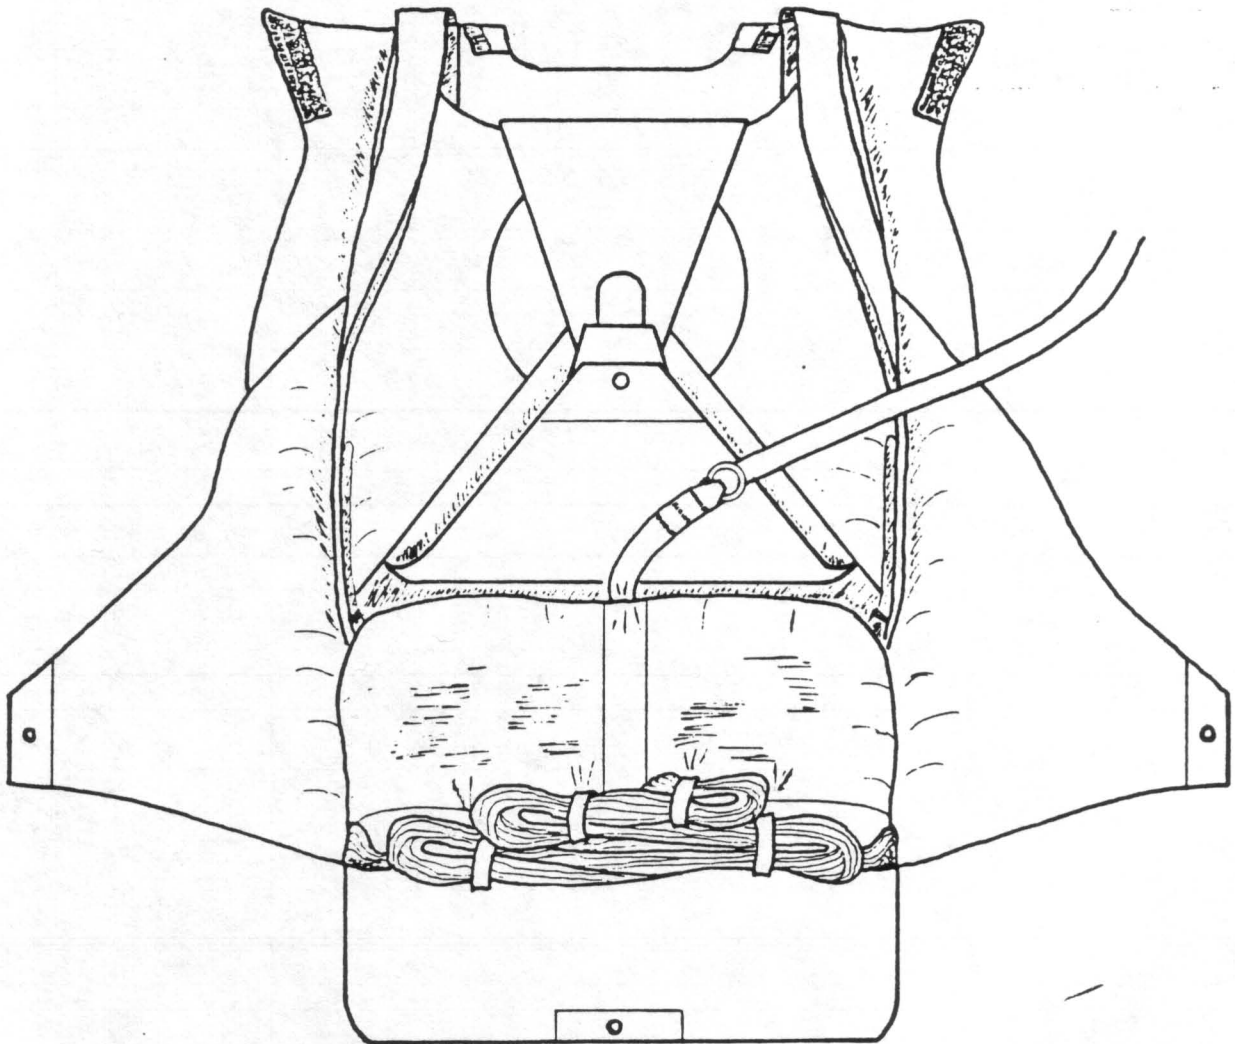

FIG. 8
- 9) Lay the risers in the "trough" between the sides of the reserve container and the riser covers, and place the connector links in the lower corners. Place the bag in the container with the line stows toward the bottom. This position is important; if the line stows are toward the top, it may be more difficult for the pilot chute to extract the bag. (FIG. 8)